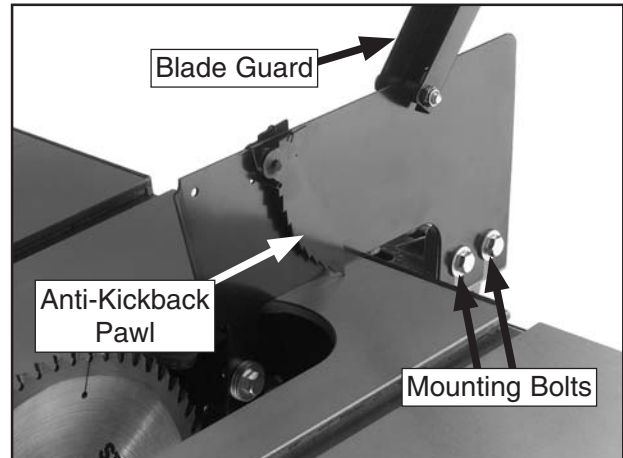

Figure 28. Blade guard and splitter in place.
1. Use the (2) $\frac{5}{16}$ "-18 x 1" hex bolts and (2) $\frac{5}{16}$ " flat washers to secure the splitter to the mounting bracket assembly, as shown in **Figure 28**.